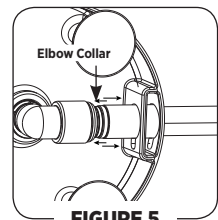

FIGURE 5
3. Using two fingers, hold the elbow collar back while pulling on the hose to disconnect it (Figure 5).